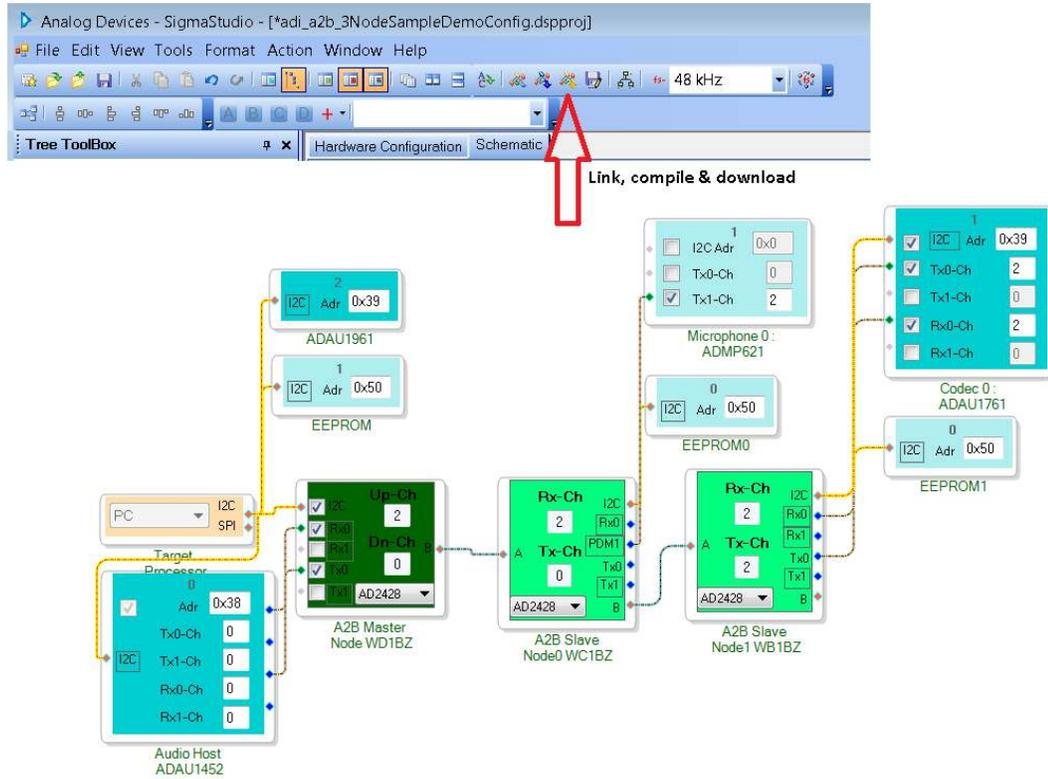

Figure 2. Software Schematic for *adi_a2b_3NodeSampleDemoConfig.dspproj* A²B Example Project
3. Open the adi_a2b_3NodeSampleDemo.dspproj example project, which is located in the (default) C:\Analog Devices\ADI_A2B_Software-Rel19.3.0\Schematics\BF\A2BSchematics directory. Click the *Link-Compile-Download* icon, as shown in Figure 2.